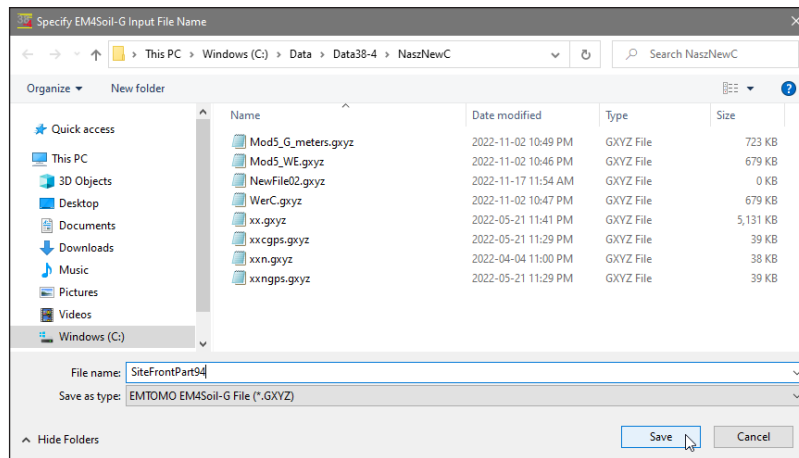

Figure 7.14 Select EM4Soil-G File Name dialog
- Click the **File** button to open the **Select EM4Soil-G File Name** window (Figure 7.14).